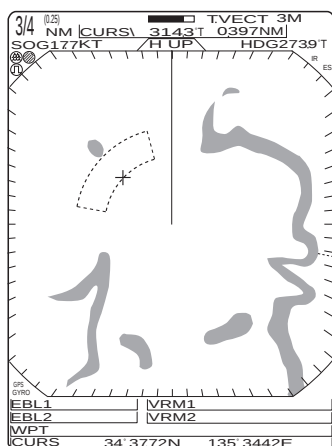
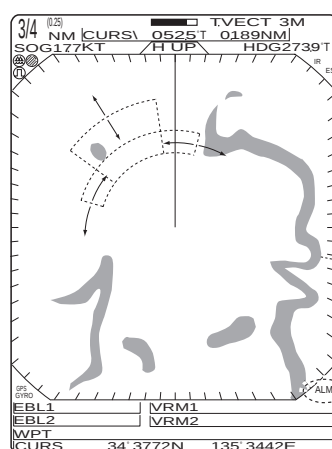

Fig. 1
Fig. 2
- ① Push [+] / [量程+] or [-] / [量程-] to select the desired range.
- ② Push [◀] [▶] [▲] [▼] to set the cursor to the starting point of the alarm zone.
- ③ Hold down [ALM] / [报警] for 1 second to enter the alarm zone setting.
- The starting zone appears on the screen. (Fig. 1)
- ④ Push [◀] [▶] to adjust an angle and push [▲] [▼] to set the distance of the alarm zone.
- ⑤ Push [ALM] / [报警] to set the alarm zone and activate the alarm function.
- ⑥ If a target comes into or goes out of the alarm zone, an alarm sounds.
- ⑦ To deactivate the alarm function, push [ALM] / [报警].
- ⑧ To activate the alarm function again with the same programmed zone, push [ALM] / [报警].
- "ALM" and the pre-programmed alarm zone appears. (Fig. 2)